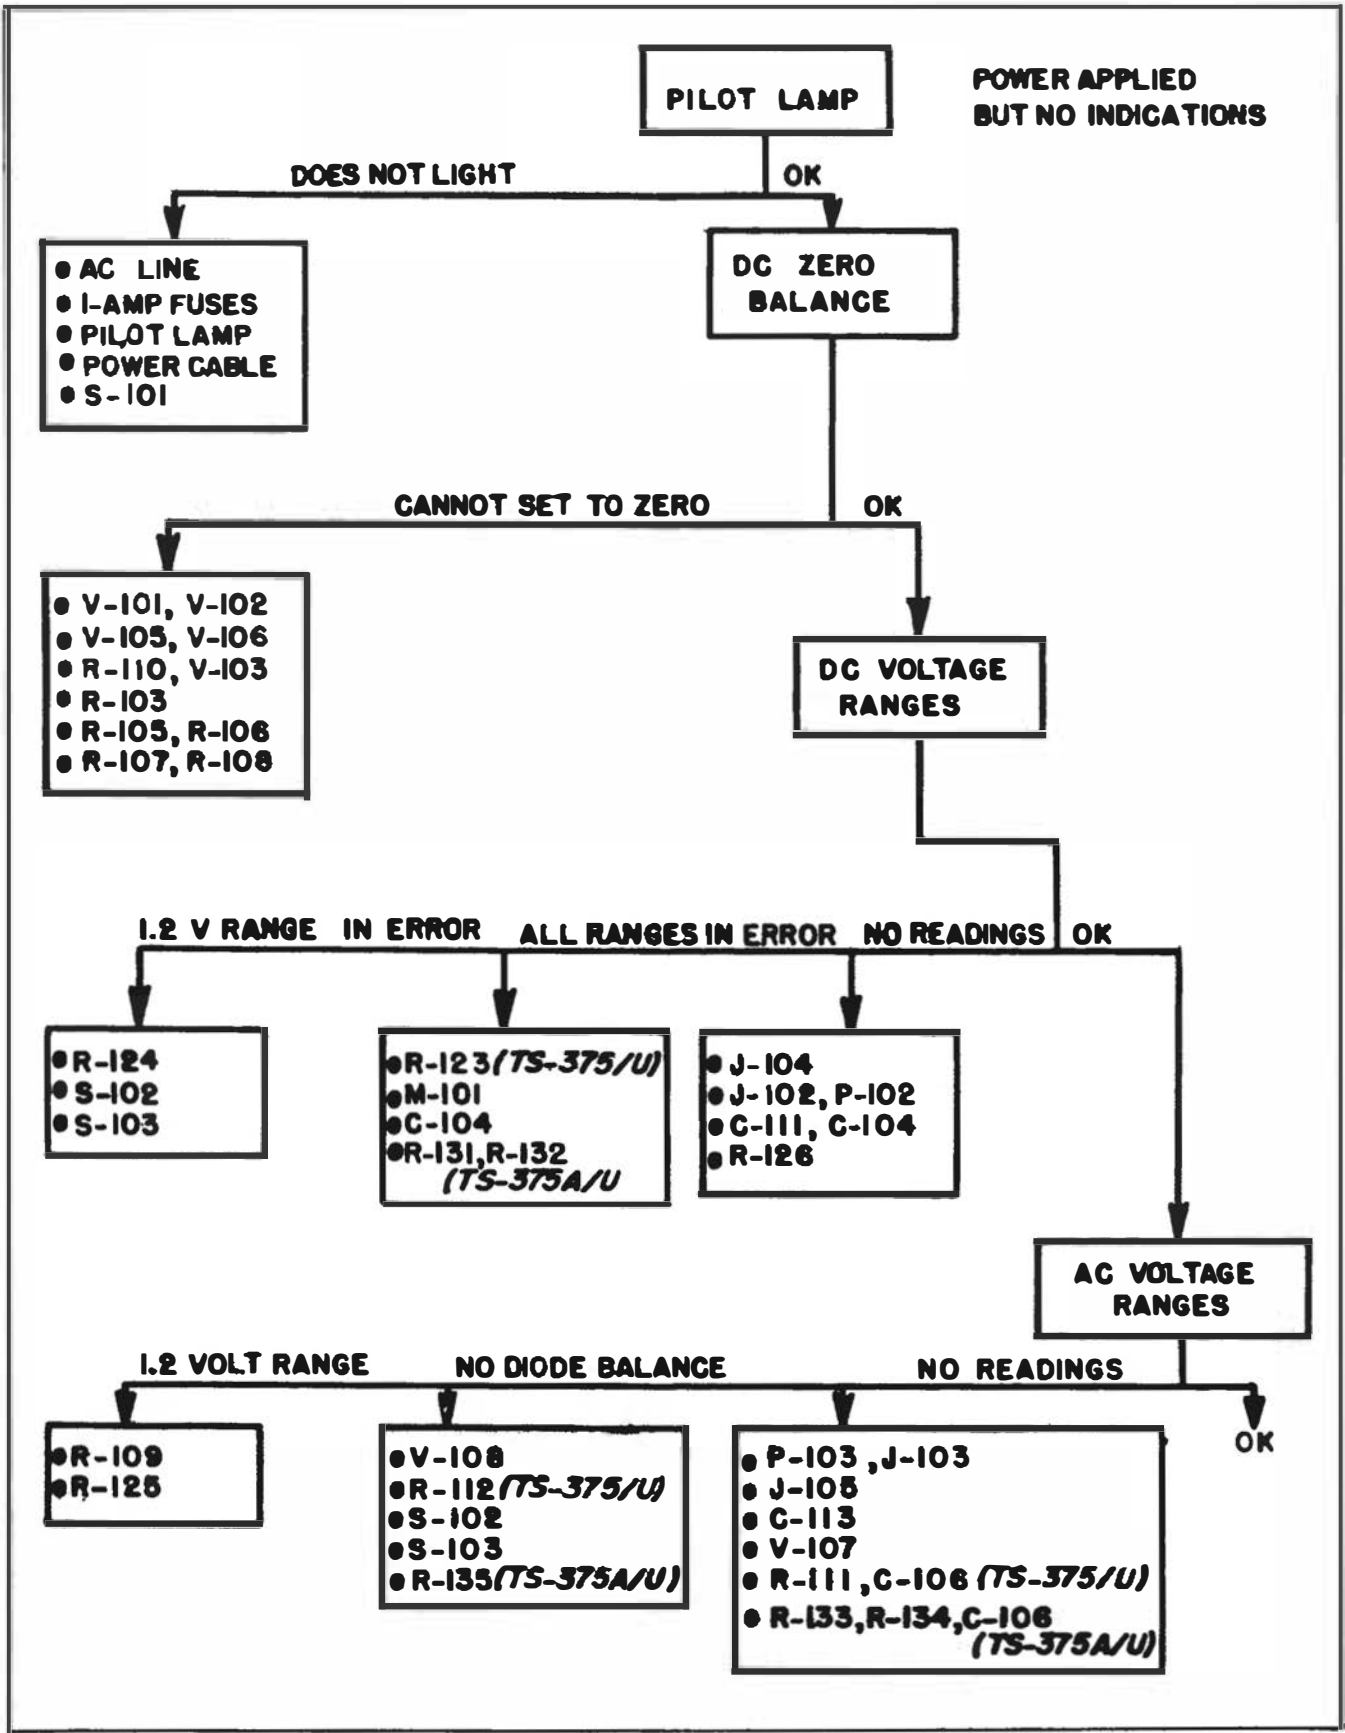

Figure 4-1. Trouble Analysis Chart for Voltmeters TS-375/U and TS-375A/U
a. **ZERO ADJUSTMENT.**—Check the instrument thoroughly by applying d-c and a-c voltages of known values to the various ranges. Check the panel zero adjustment on each range before each calibration check. If the instrument pointer cannot be set to zero on any of the ranges, or erratic readings are noted, proceed with adjustment or repair as required. Refer to figure 4-1.